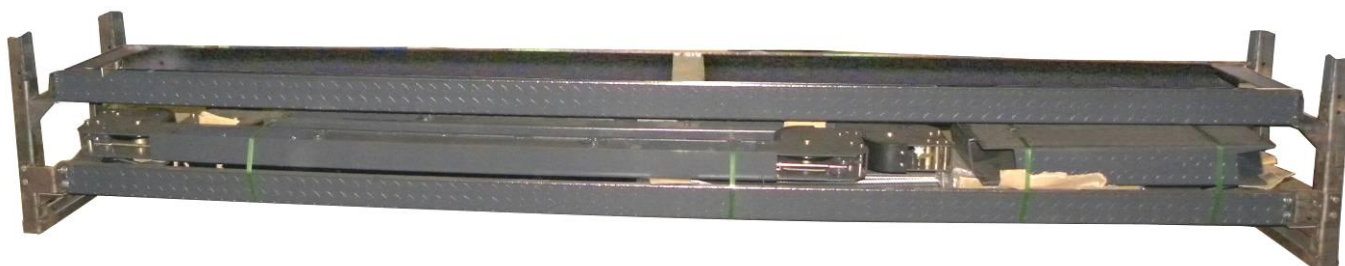

Fig.7
3. Take off the drive-thru ramps and columns (See Fig.7).